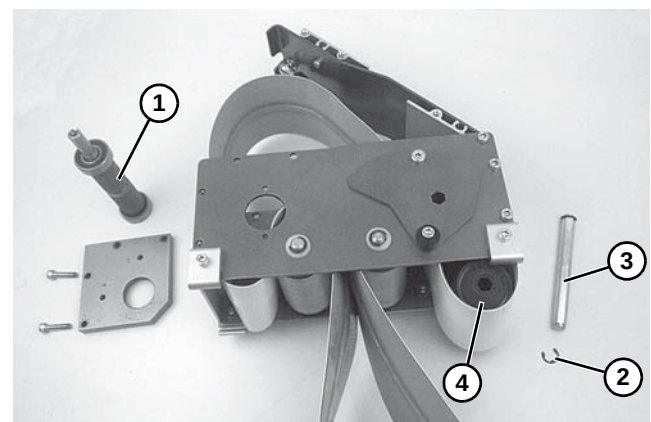

Figure 28
2. Remove drive pulley (**Figure 28, item 1**).
- For 2" (44 mm), 3" (70 mm) or 4" (95 mm) wide conveyor, detach E-ring clip (**Figure 28, item 2**). Remove pulley shaft (**Figure 28, item 3**) and remove pulley (**Figure 28, item 4**).